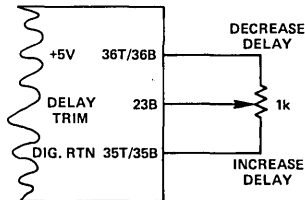

Figure 10. Delay Trim
The DLY OUT signal may be adjusted to vary the A/D converter triggering time by means of the external circuitry shown in Figure 10. An open DLY TRIM terminal (Pin 23B) results in a nominal delay time of  $3.0\mu s$ . A grounded DLY TRIM terminal (for highest-accuracy) results in  $20\mu s$  delay time nominal.
- (1) **NORMAL** (input channel remains selected during its A/D conversion). Connect Pin 23T (DLY OUT) to Pin 27T (TRIG).
- (2) **OVERLAP** (next channel is selected during A/D conversion). Connect Pin 27B (EOC) to TTL compatible inverter input. Connect inverter output to Pin 24T (STROBE). Connect Pin 23T (DLY OUT) to Pin 27T (TRIG). Adjust the delay to at least 4 $\mu$ s greater than EOC, 20 $\mu$ s max (see Figure 10). The signal on Pin 26T (TRIG) serves as RUN/STOP control.
- (3) **REPETITIVE SINGLE CHANNEL.** After selecting the input channel to be repetitively sampled (see MUX ADDRESS MODE, above), set Pin 27T (TRIG) to Logic "0". Connect Pin 26T (TRIG) to a triggering source. Conversion process is initiated by positive edge of TRIG command.